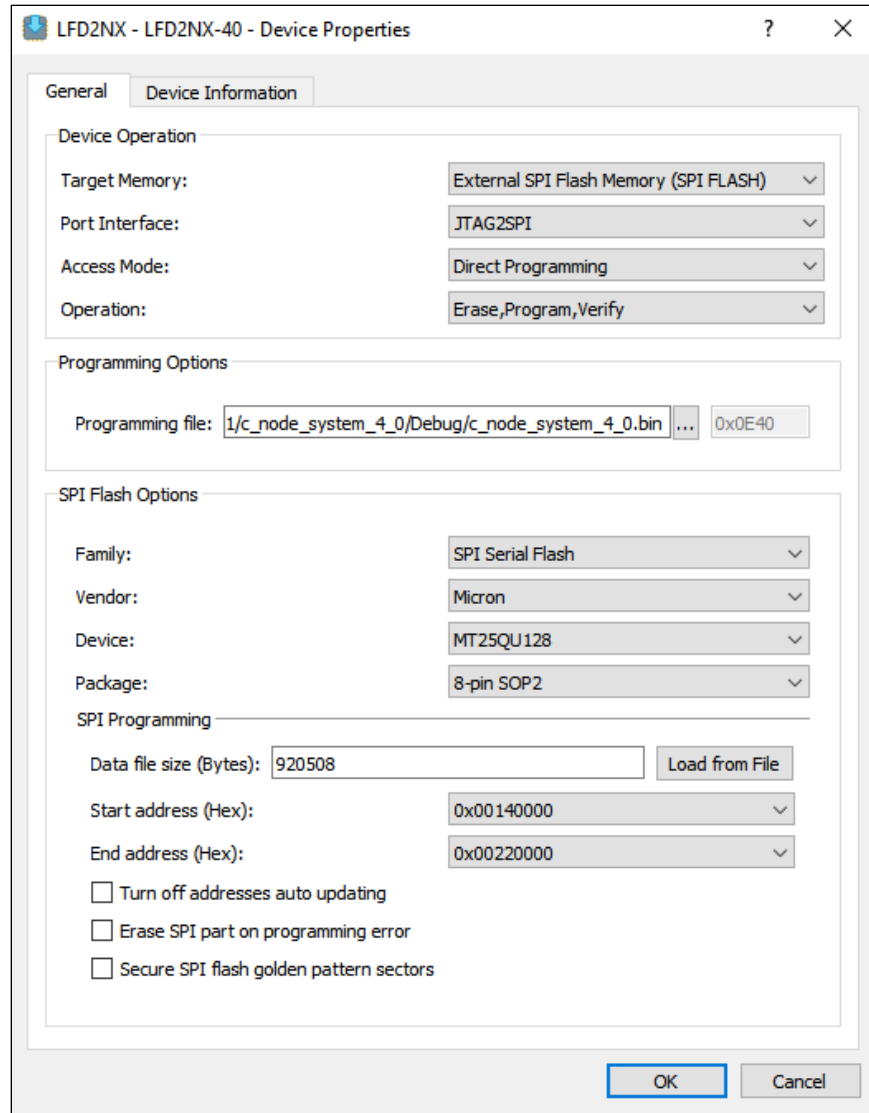

Figure B.16. Radiant Programmer – Binary Flashing Settings (Node System)
10. To program the firmware, select the options as shown in Figure B.16 below.